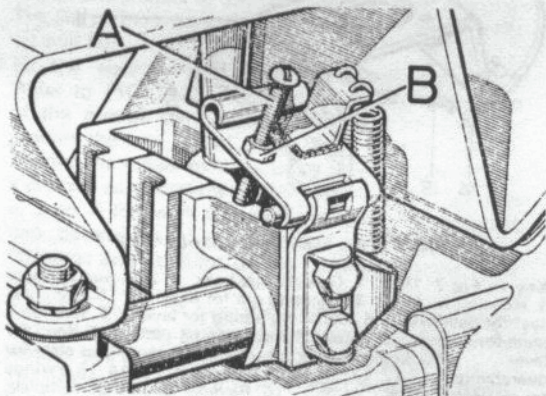

FIG 7:19 Adjusting reverse selector stop
- 5 Refer to **FIG 7:16** and undo the nuts holding the oil seal retainer 10 and remove complete with oil seal 9. Drive out the bearing 8.
Wash and examine all components. Renew all worn parts and obtain new splitpins and joint washers. Renew the bearing if any slack or roughness is noted. The bearing must be a push fit on the shaft and a light drive fit in the housing. Fit a new oil seal in the retainer with its knife edge inwards. Smear the outside diameter with jointing compound and warm the retainer before assembling. Renew the mudshield on the retainer. If the spigot bush 4 (see **FIG 7:16**) is removed, press in a new one and ream to .875 inch (22.2 mm). The dog clutch selector springs 4 (see **FIG 7:15**), should have a free length of 2.75 inch (69.8 mm) and the transfer selector spring 15, 7.156 inch (181.76 mm).
Key to Fig 7:19 A Adjusting screw B Locknut
- 2 Fit the two springs 4 (see **FIG 7:15**), and the selector fork 2 to the shaft 1. Replace block 5.
- 3 If items 16 and 21 have been separated, replace them with the hole for the locking peg vertical and the cut-away underneath item 21. Secure lightly with the nut and washer.
- 4 Secure item 22 to 21 with the screwed pin 23 and nut 24. Fit a new splitpin 25. The shorter end of the coupling 22 must be towards the transfer selector.
- 5 Fit the output shaft 3 in the housing 1 (see **FIG 7:16**) and secure with the flange 16 and nut, washer and splitpin 18, 19 and 20. Tighten the nut to 85 lb ft (11.75 kgm).
- 7 Fit the connector 16 of the pivot shaft over the transfer selector shaft. To ensure that the connector 16 is fitted at the correct angle to the pivot shaft 21 remove the dust cover (24 in **FIG 7:16**) and proceed as follows: